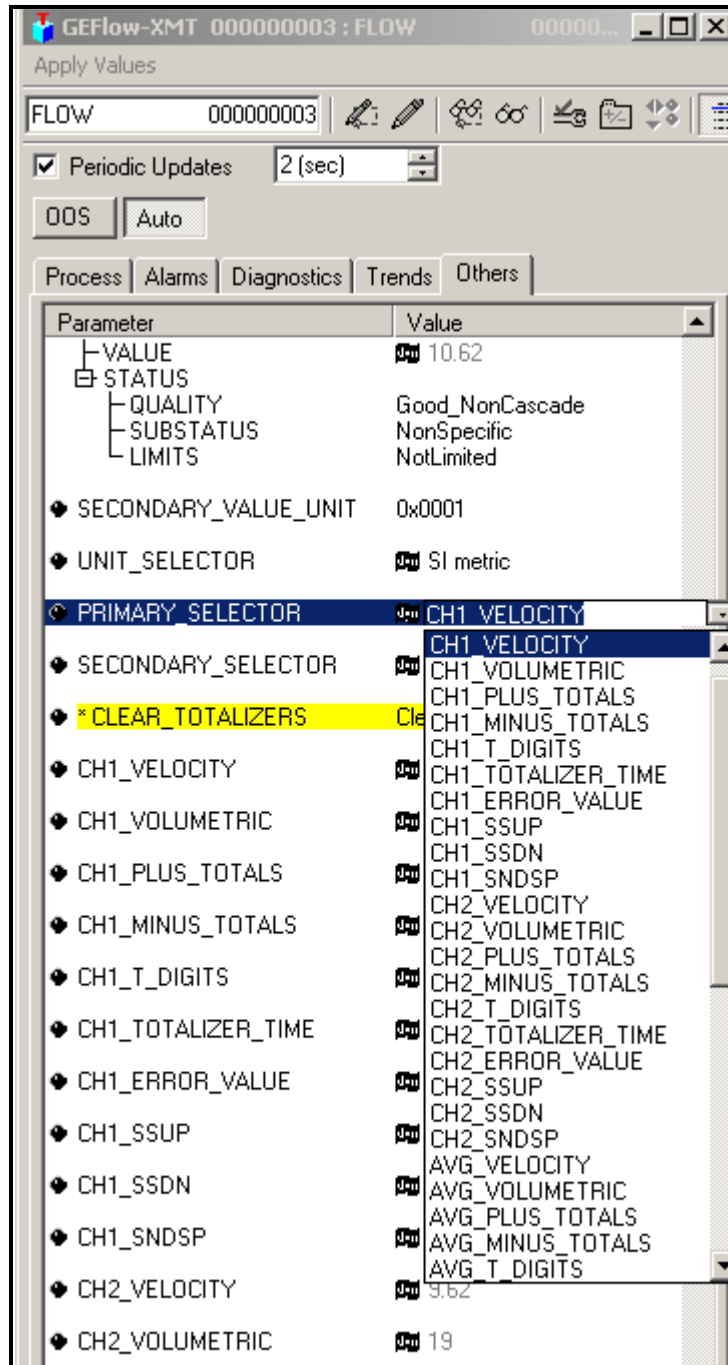

Figure 41: Primary Selector Drop Down List
2. Select the **Others** tab and open the drop down list for the PRIMARY\_SELECTOR and SECONDARY\_SELECTOR (see Figure 41 on page 111).
3. Choose the unit from the list (see Figure 41 on page 111).